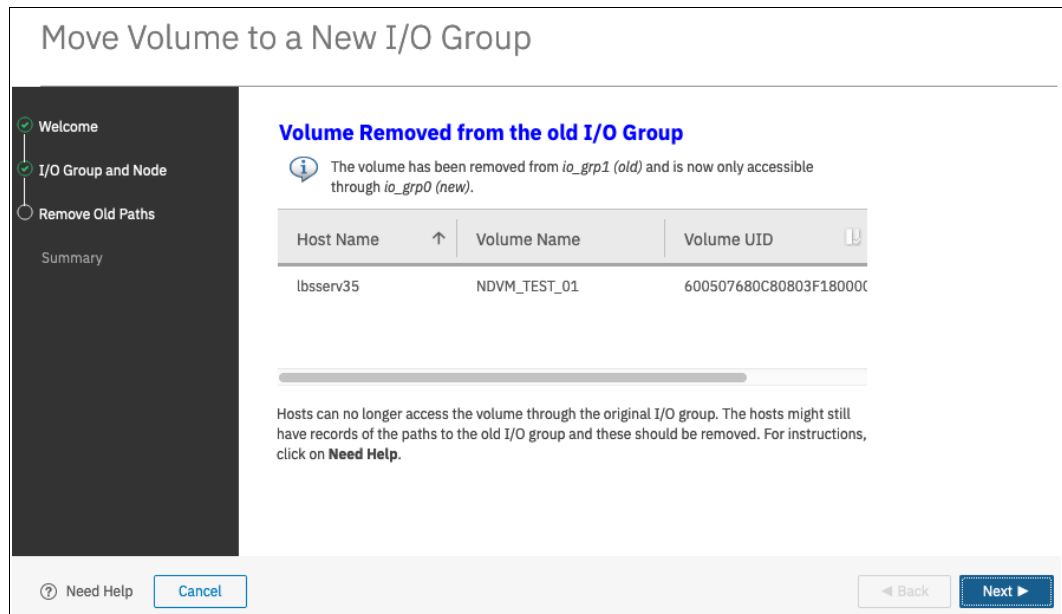

Figure 6-73 Modify I/O Group for a mapped volume wizard: Operation complete
5. Close the detail window to proceed to the final window of the wizard, as shown in Figure 6-73. Now, hosts cannot access the volume through the old I/O group, and depending on the OS, you might need a restart to remove the dead/stale paths.